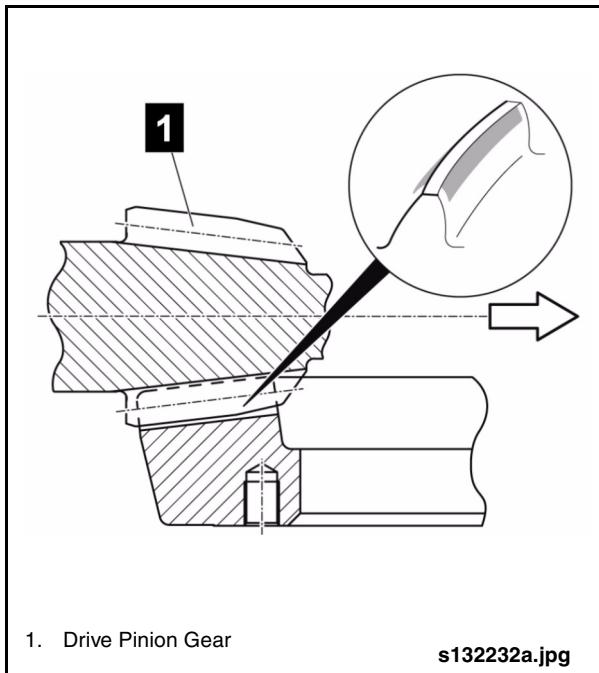

Fig. 2-74: Contact on Tooth Tip
1. If there is contact at the tooth tip, increase the installation depth of the drive pinion by using thinner shims. See “Fig. 2-74: Contact on Tooth Tip” on page 61.